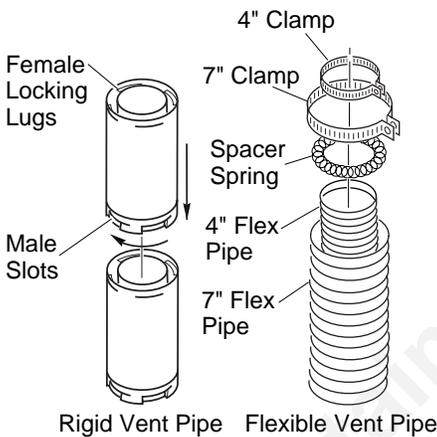

Figure 11 - Vent Pipe Connections
2. Rigid vent pipes and fittings have special twist-lock connections. Assemble the desired combination of pipe and elbows to the appliance adaptor with pipe seams oriented towards the wall or floor. **Twist-lock Procedure:** The female ends of the pipes and fittings have four locking lugs (indentations). These lugs will slide straight into matching slots on the male ends of adjacent pipes and fittings. (All connections must be sealed with high temperature silicone sealant as specified in the second warning statement on page 7.) Push the pipe sections together and twist one section clockwise approximately one-quarter turn until the sections are fully locked. See Figure 11, page 9. *Note:* Horizontal runs of vent must be supported every three feet. Use wall straps for this purpose.
Flexible vent pipe must be installed with spacer springs every 12". See Figure 11, page 9. All connections must be clamped tightly and sealed with high temperature silicone sealant as specified in the second warning statement on page 7.
- Assemble the desired lengths of pipe and elbows necessary to reach from the fireplace flue up through the firestop. All connections must be sealed with high temperature silicone sealant as specified in the second warning statement on page 7. Be sure all pipe and elbow connections are fully twist-locked (see Figure 11, page 9).